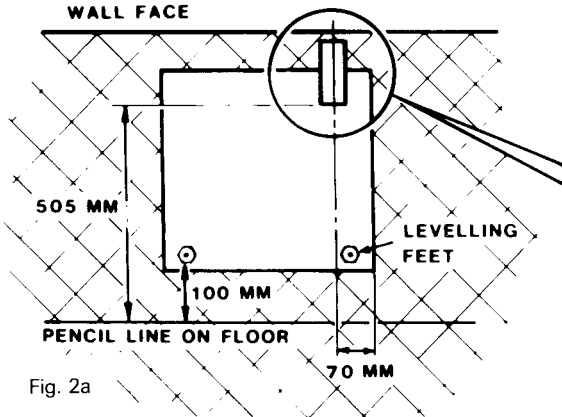

Fig. 2a
3. Draw a line 100mm (4") from the front edge of the levelling feet (see Fig. 2a) and remove cooker from its position. Mark off 505mm (19 $\frac{5}{8}$ ") back from this line on the centre line of the bracket to locate the front edge of the lower bracket.